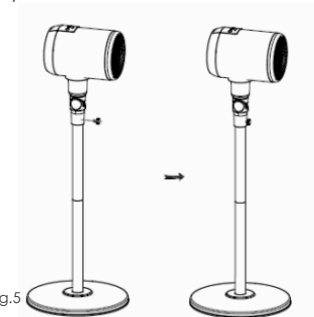

Fig.5
5. Fit the fan head retention knob and tighten to secure the fan head in place as shown in. (Fig.5)